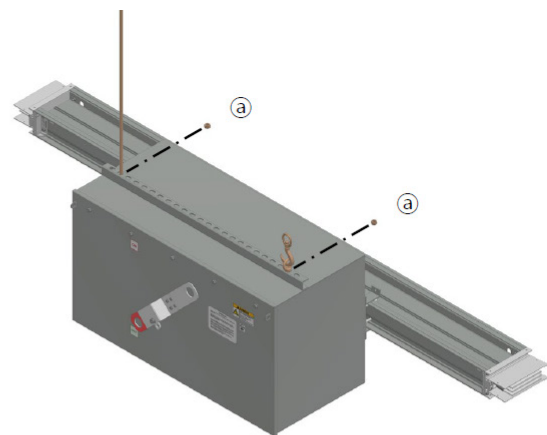

Figure 43. Drop Rod or Latch Installation
1. Use a drop rod or latch to firmly secure the bolt-on unit. (Figure 43, a)